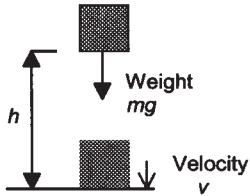

Figure 7.13 Kinetic energy
Consider an object of mass m which has been lifted from the floor through a vertical height h , so acquiring a potential energy of mgh . If the object now falls back down to the floor (Figure 7.13), it loses its potential energy of mgh and gains energy by virtue of its motion, this being termed *kinetic energy*. The potential energy has been transformed into kinetic energy. The kinetic energy (KE) gained is the potential energy lost. If the object starts from rest on the table and has a velocity v when it hits the floor, then the average velocity is $v/2$. The average velocity is the distance h covered over the time t taken. Hence, average velocity = $v/2 = h/t$ and so $h = vt/2$. The average acceleration is the change in velocity divided by the time taken. Thus $g = v/t$. Hence: